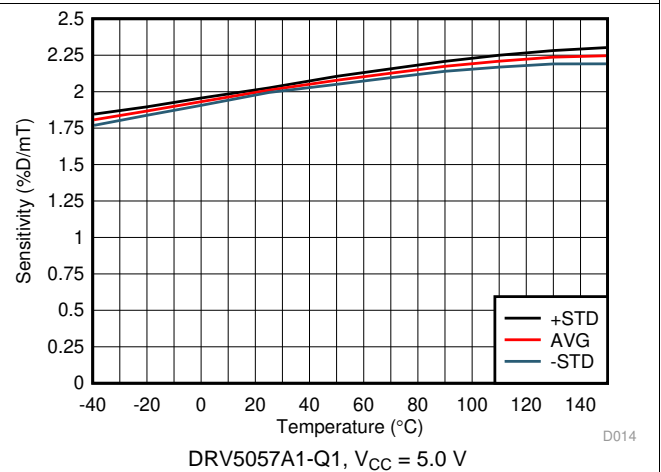

图 4. Sensitivity vs Temperature
(1) This unit is a percentage of duty cycle.
(2) B is the applied magnetic flux density.
(3) See the Sensitivity Linearity section.
(4) B_L describes the minimum linear sensing range at 25°C taking into account the maximum V_Q and sensitivity tolerances.
(5) S_{TC} describes the rate the device increases Sensitivity with temperature. For more information, see the Sensitivity Temperature Compensation for Magnets section and 图 4 to 图 11.